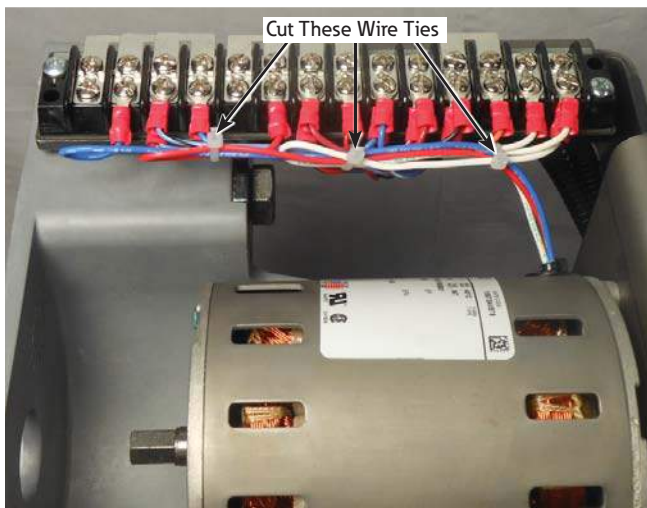

Figure 2. Removal of wire ties
3. Use diagonal cutters to cut the wire ties from the motor wires. Refer to Figure 2.